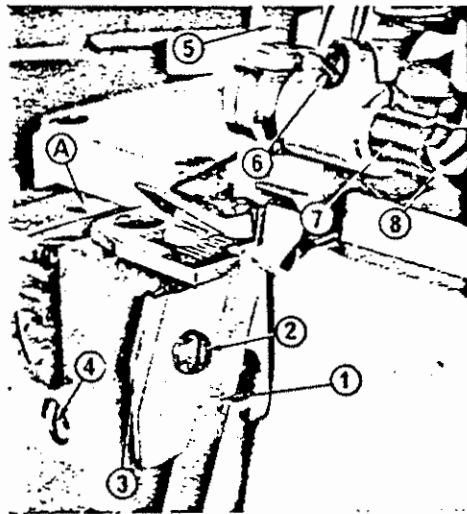
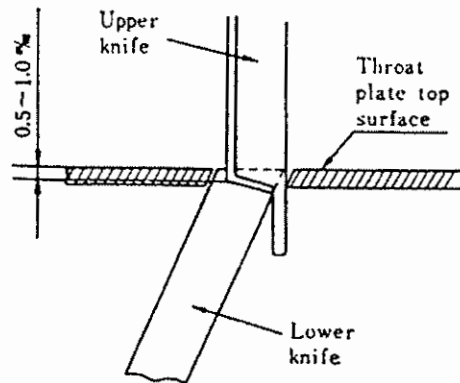

Fig. 21
Fig. 22
- ③ As the lower knife adjuster ③ Fig. 21 makes a slight movement when the machine is running, apply a little quantity of oil to the upper part of the lower knife support bracket ④, Fig. 21.
## 11. Knife mechanism (Fig. 21)
- To adjust the width of knife, press down the lower knife holder to the left, tighten the stopper locking screw ④ and then determine the width (knife width) between the needle position and the upper knife ⑤.
The knife width will become wider if the upper knife holder stud clamp screw ⑥ is loosened and the upper knife holder stud ⑦ is moved to the right toward the pulley and if it's moved to the left towards the needle, it becomes narrower. The width can be adjusted from 2-5 mm ( $1/16 \sim 1/4$ " ) range. When the knife width is fixed, tighten the screw ⑥. When the upper knife is lowered to the lowest point, be sure that it sinks 0.5~1mm ( $5/256 \sim 5/128$ " ) below the level of lower knife (Fig. 22) by loosening the upper knife clamp screw (Fig. 21 ⑧), then tighten the screw ⑧.
When this adjustment is completed, be sure to loosen the stopper locking screw (Fig. 21 ④). Be doubly sure that the upper knife and the upper knife holder are not touching the throat plate, the looper cover or the feed base. If they are, the parts may be damaged.